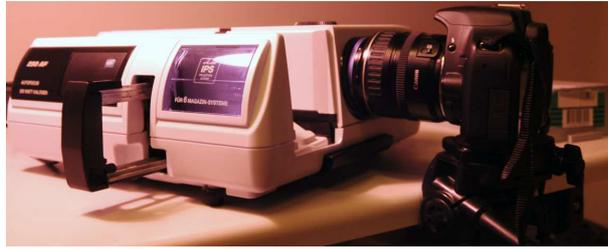

Figure 1: The camSPECS machine.
- Fix the camera in an appropriate position with respect to the machine. The camera should not move when you take *all* 55 images during which the first filters slide needs to be replaced with the second one (Fig. 1).